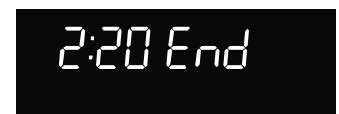

Fig. 6
1. "End" and the time of day will show in the display. The oven will shut off automatically (See Fig. 6).